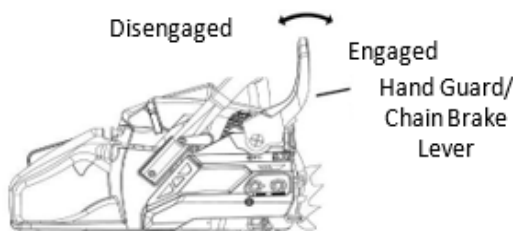

Figure 17: Hand Guard/Chain Brake Lever
3. Place the Hand Guard / Chain Brake Lever in normal operating (disengaged) position by pulling the Hand Guard back toward the Handle. Refer to Figure 17.